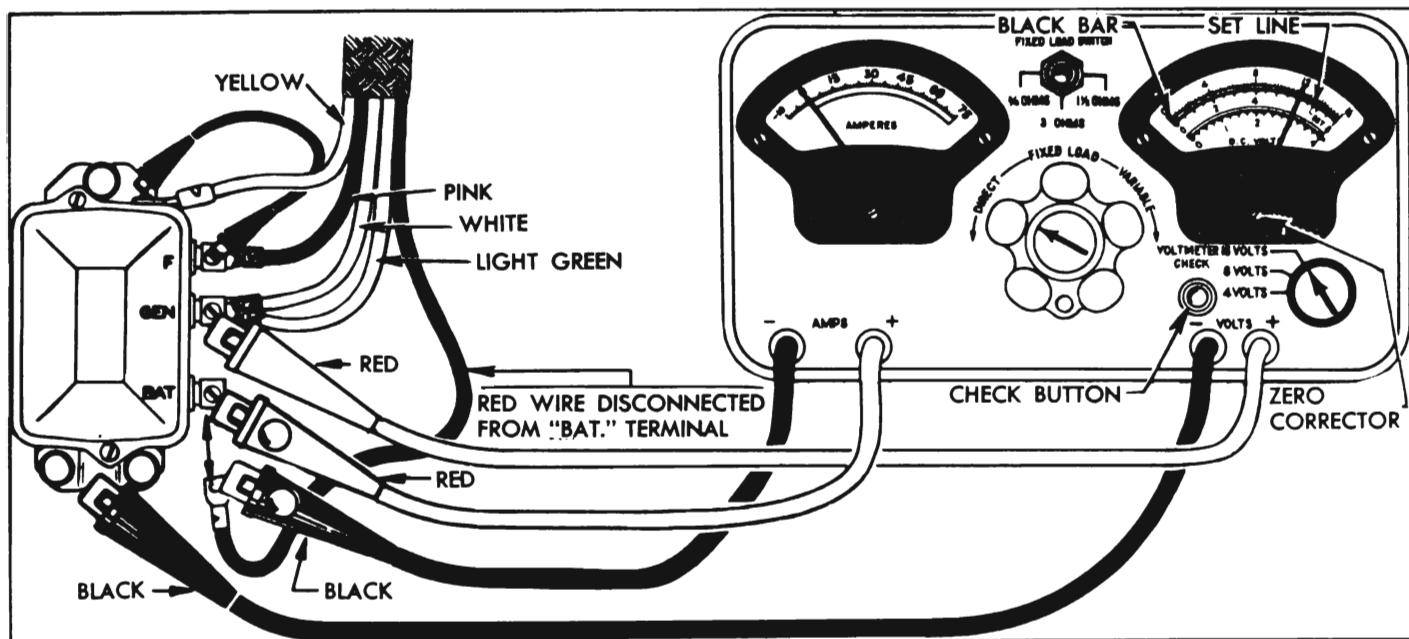

Figure 10-13—Voltmeter Calibrations and Cutout Relay Test Connections—Sun Tester
- (b) While looking squarely at voltmeter dial, press the "VOLTMETER CHECK" button and note whether the voltmeter needle aligns with the "SET" line. See figure 10-13. With check button depressed, the voltmeter is disconnected from any external circuit and is connected across an extremely accurate internal test cell which checks its calibration within the range required for testing the voltage regulator.
- (c) If voltmeter needle does not exactly align with the "SET" line, hold "VOLTMETER CHECK" button depressed and adjust the Zero Corrector to bring voltmeter needle into exact alignment with "SET" line. See figure 10-13.
3. Depress the release button on the Control Knob of Volts Ampere Tester and rotate knob counterclockwise to the stop in "DIRECT" position. Turn voltmeter Selector Switch to the "16 VOLT" position. See figure 10-13.
4. *With engine stopped*, disconnect wire from regulator terminal marked "BAT", connect the black ammeter test clip to the disconnected wire, and connect the red (+) test clip to the regulator "BAT" terminal. See figure 10-13.
5. Connect the red (+) voltmeter test clip to the "GEN" terminal of regulator and connect the black (-) voltmeter test clip to ground on base plate of regulator. See figure 10-13.